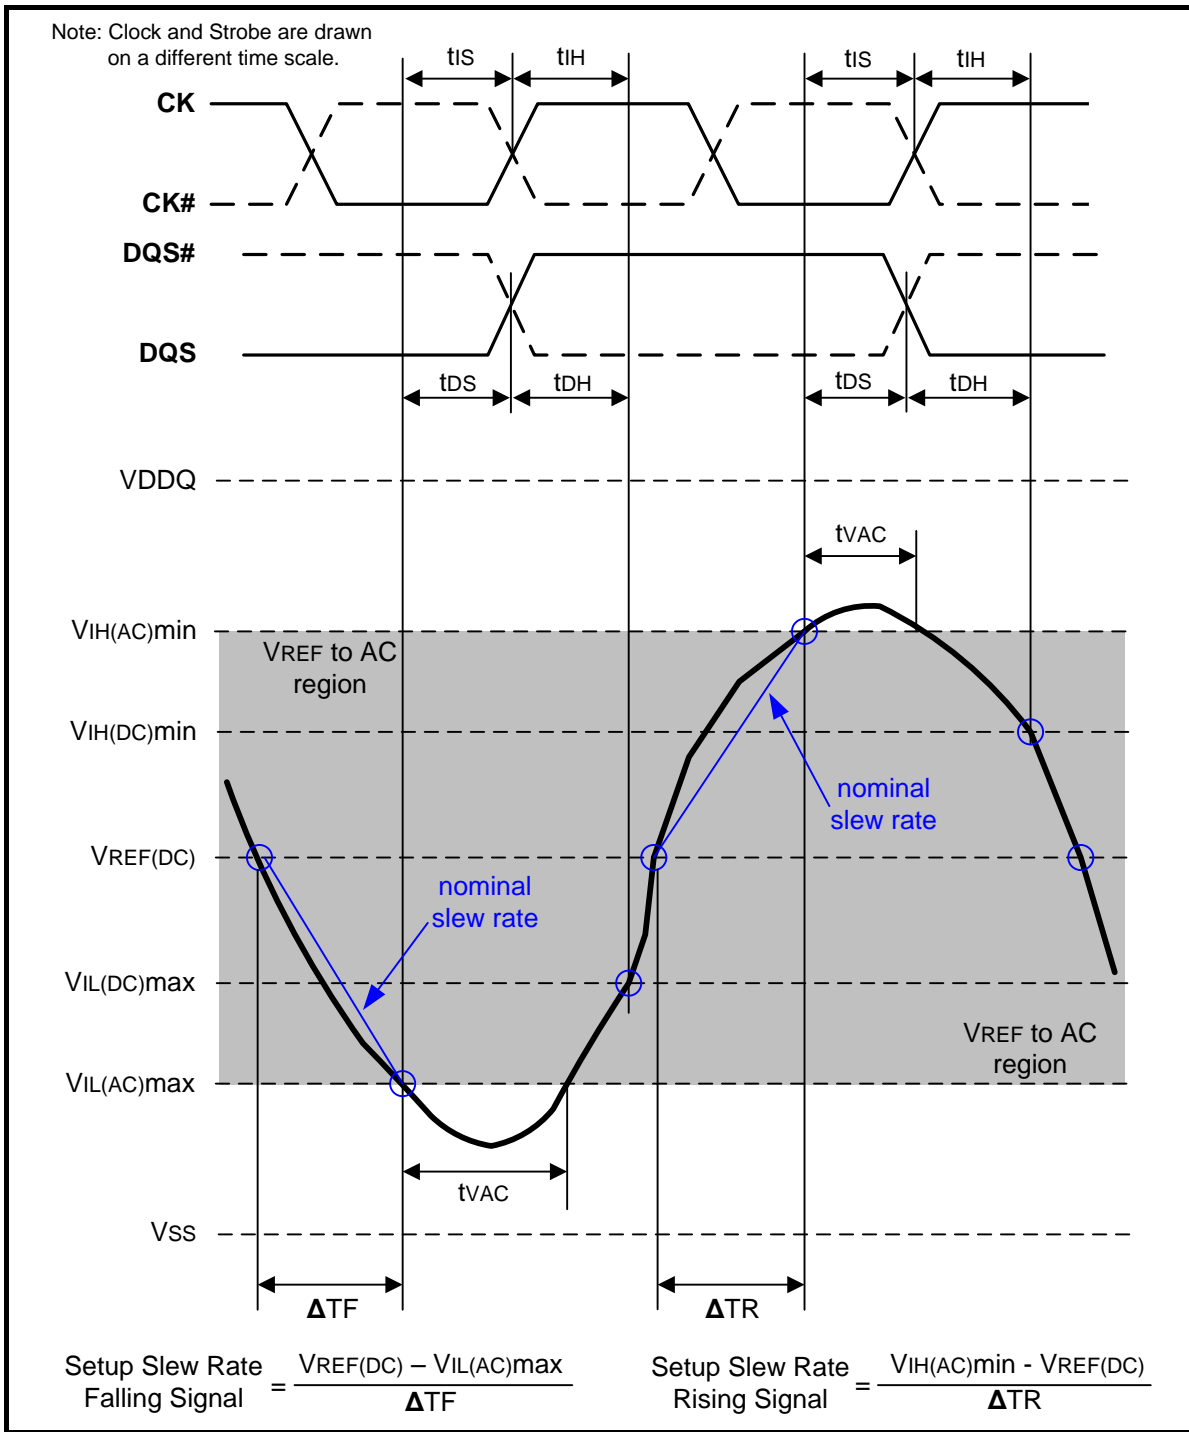
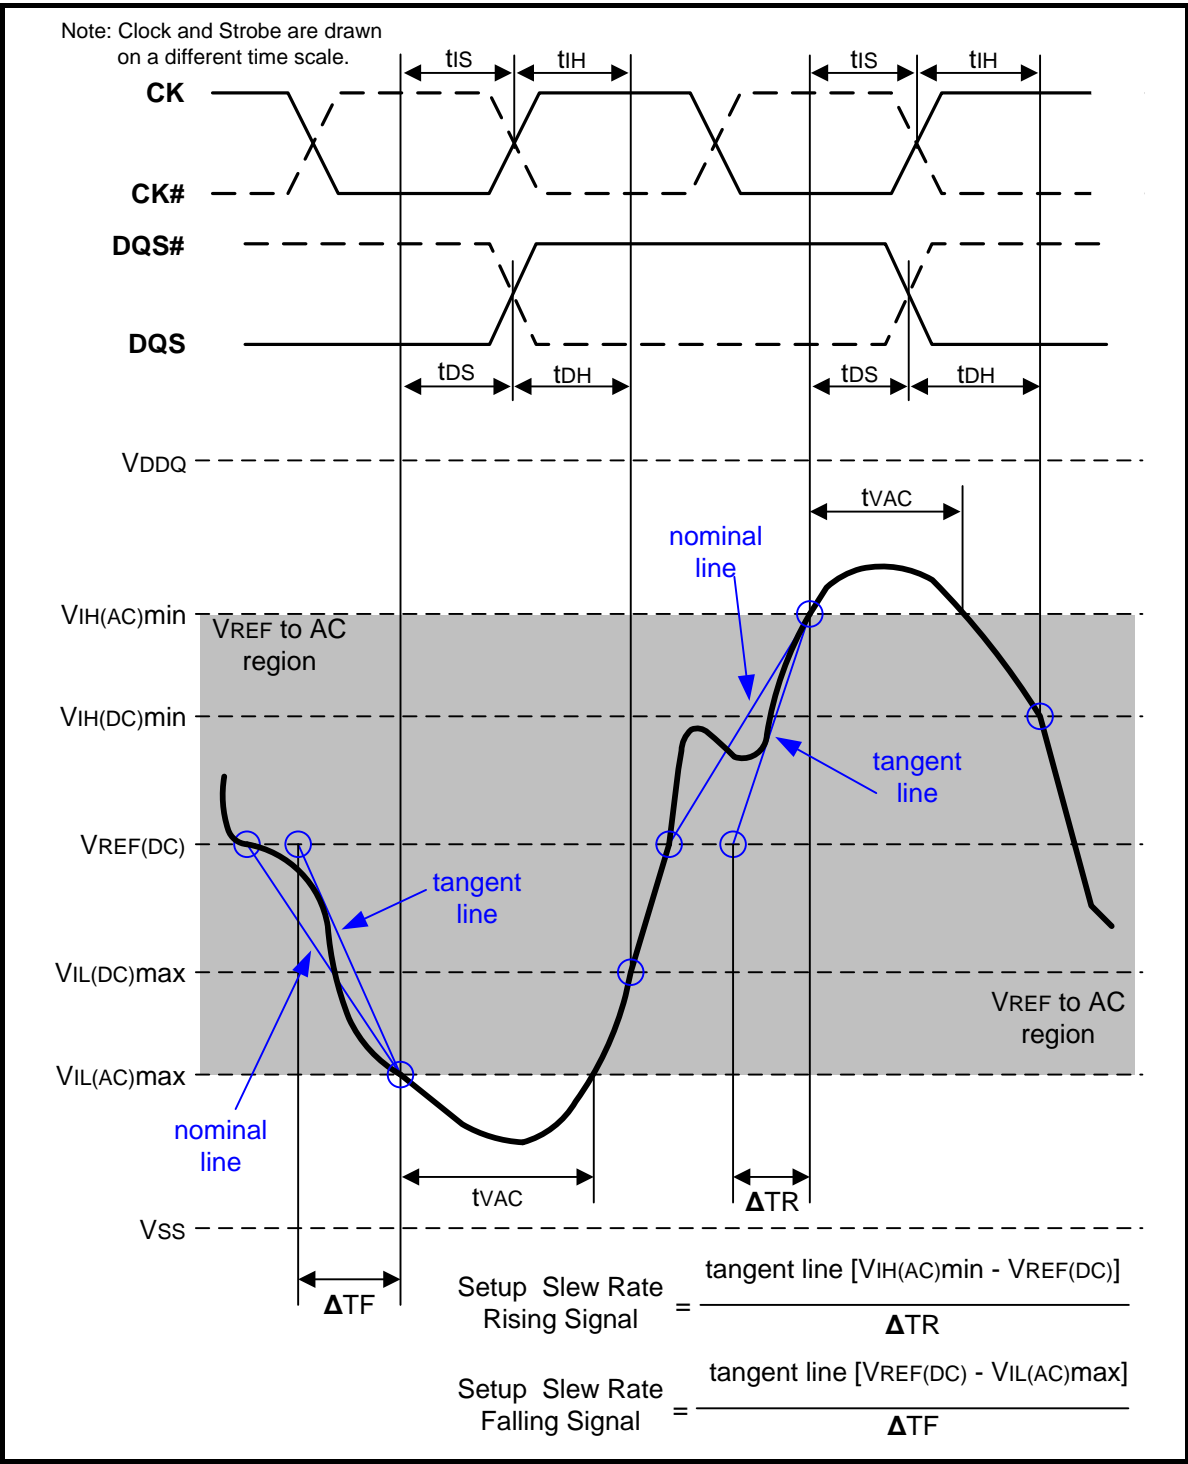

Figure 107 – Illustration of nominal slew rate and tvAC for setup time tds (for DQ with respect to strobe) and tis (for ADD/CMD with respect to clock)
Figure 109 – Illustration of tangent line for setup time tds (for DQ with respect to strobe) and tis (for ADD/CMD with respect to clock)
Setup ( $t_{IS}$ ) nominal slew rate for a rising signal is defined as the slew rate between the last crossing of  $V_{REF(DC)}$  and the first crossing of  $V_{IH(AC)min}$ . Setup ( $t_{IS}$ ) nominal slew rate for a falling signal is defined as the slew rate between the last crossing of  $V_{REF(DC)}$  and the first crossing of  $V_{IL(AC)max}$ . If the actual signal is always earlier than the nominal slew rate line between shaded 'VREF(DC) to AC region', use nominal slew rate for derating value (see Figure 107). If the actual signal is later than the nominal slew rate line anywhere between shaded 'VREF(DC) to AC region', the slew rate of a tangent line to the actual signal from the AC level to DC level is used for derating value (see Figure 109).
Setup (tDS) nominal slew rate for a rising signal is defined as the slew rate between the last crossing of VREF(DC) and the first crossing of VIH(AC)min. Setup (tDS) nominal slew rate for a falling signal is defined as the slew rate between the last crossing of VREF(DC) and the first crossing of VIL(AC)max (see Figure 107). If the actual signal is always earlier than the nominal slew rate line between shaded 'VREF(DC) to AC region', use nominal slew rate for derating value. If the actual signal is later than the nominal slew rate line anywhere between shaded 'VREF(DC) to AC region', the slew rate of a tangent line to the actual signal from the AC level to DC level is used for derating value (see Figure 109).